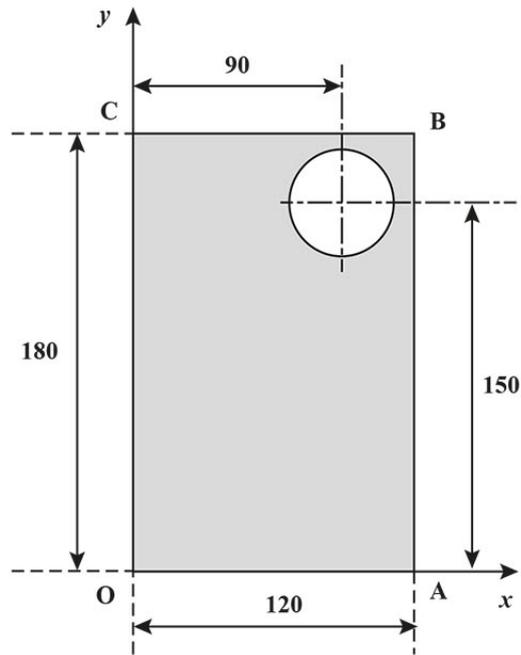

Fig. 5
- 4 (a) Fig. 5 shows a plate of uniform density aligned within a Cartesian coordinate system, (x, y) , with the origin at corner O. The plate has the shape of a rectangle, 120 mm wide and 180 mm long and contains a circular hole. The hole has a diameter of 40 mm with its centre at coordinates (90, 150).